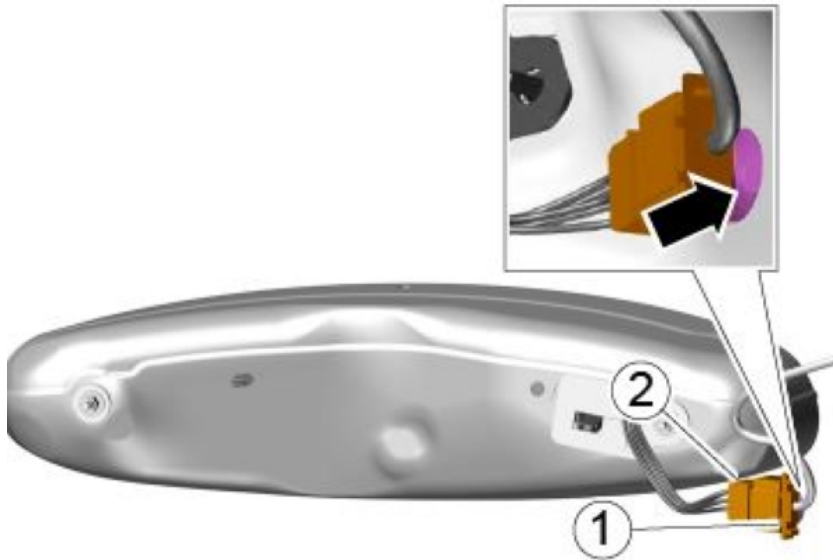

Figure 1
*Referring to figure 1 Disconnect the lamp connector -1- from the harness -2-*